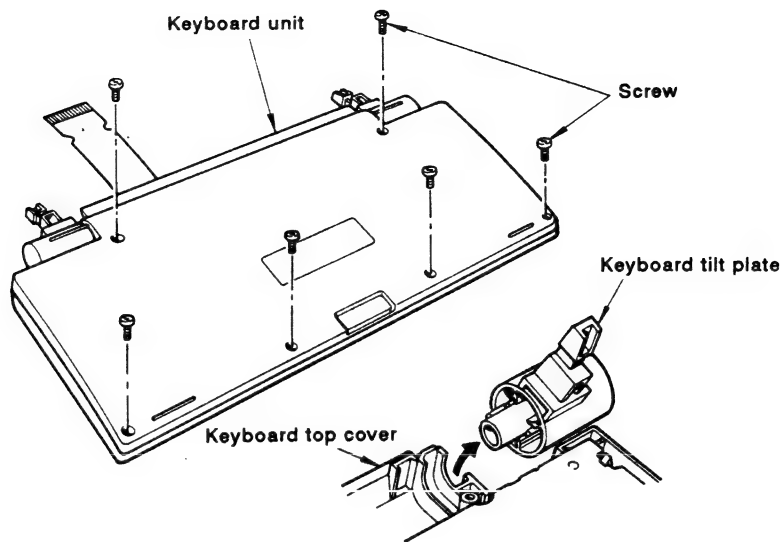

Fig. 21.2
- (5) Remove the keyboard tilt plates. (Fig. 21.2)
- (6) Remove the keyboard rocker.